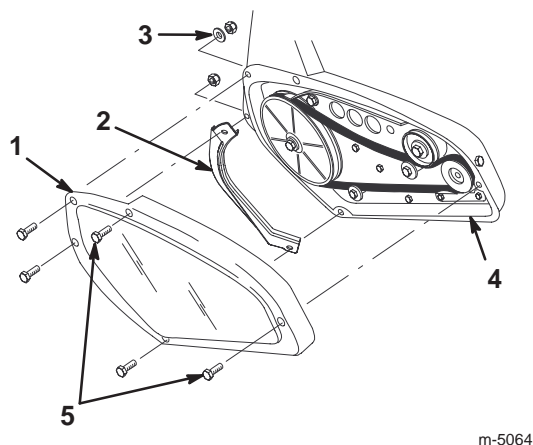

Figure 20
4. Remove the two self-tapping screws, three cap screws, one washer, and three locknuts that secure the drive belt cover to the snowthrower frame (Fig. 20). Set the drive belt cover aside.
5. Remove the left rotor guard (Fig. 20) and save it for installation in step 10.